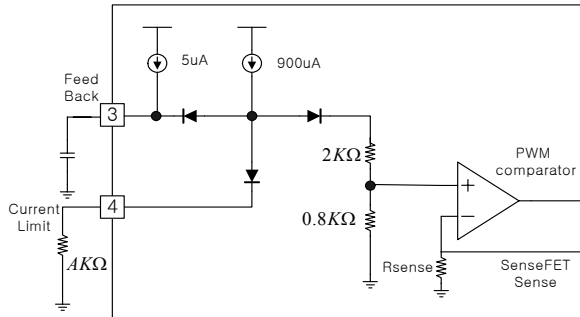

Figure 13. Peak current adjustment
8. Adjusting Current limit function: As shown in fig 13, a combined $2.8k\Omega$ internal resistance is connected into the non-inverting lead on the PWM comparator. A external resistance of A on the current limit pin forms a parallel resistance with the $2.8k\Omega$ when the internal diodes are biased by the main current source of $900\mu A$.